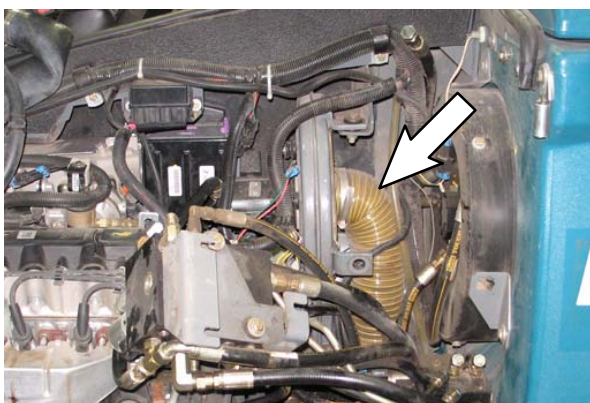

FIG. 8
- Disconnect the intake hose from the sweep fan. Move the intake hose away from the scrub vacuum fan. Set the hose clamp aside. (Fig. 8)